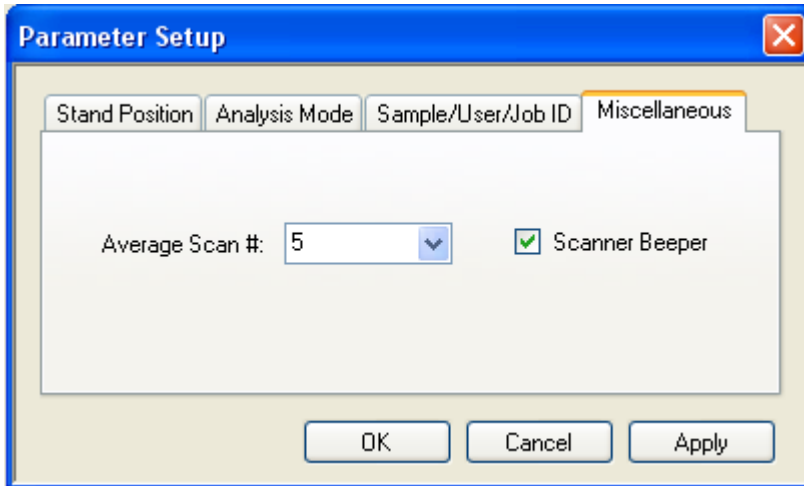

Figure 3-4
1. Select tab **Miscellaneous** (Figure 3-4)